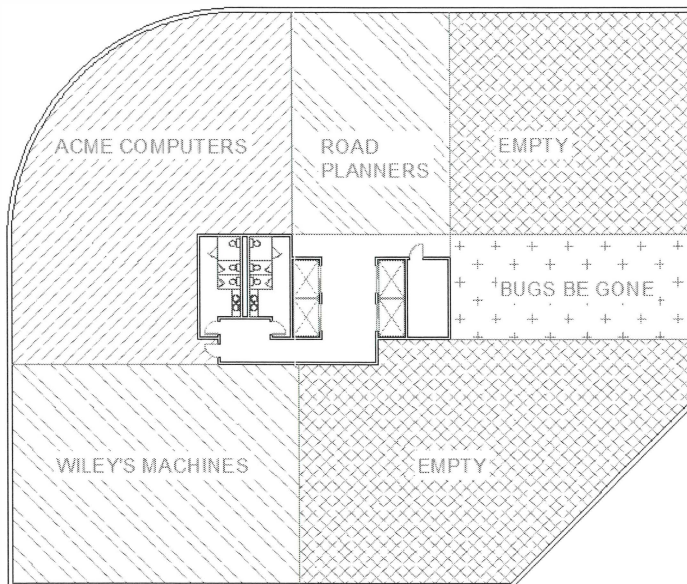

Figure 12–21
2. In the overall viewport, divide the building into several areas, with lines radiating from the core, as shown in Figure 12–21. These are subdivisions for various tenants.